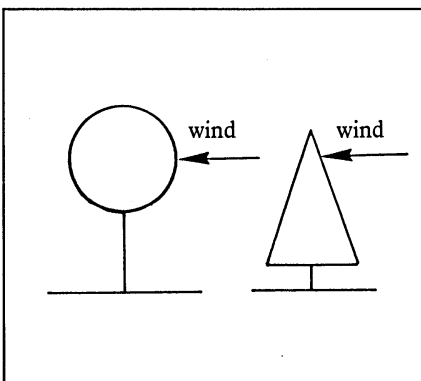

Figure 2 Tree shapes
- 4 Look at Figure 2. Which shape of tree is more likely to topple over in the wind?